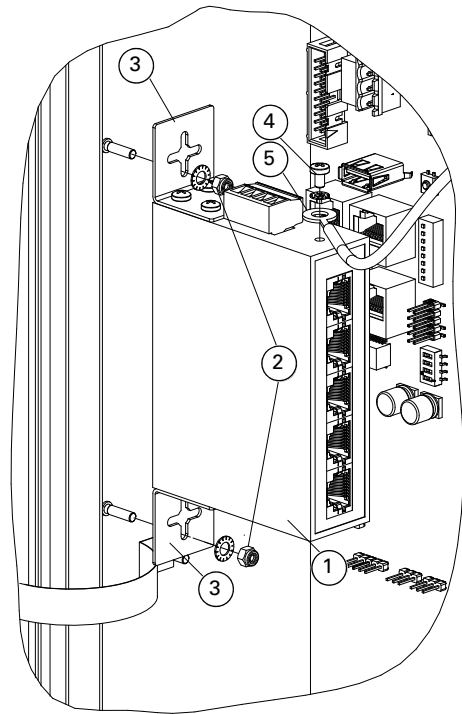

Fig. 5: Installation of the PCS800 to the FireClass FC702S panel
- 1 Mount the fixing elements (refer to item 3 in Fig. 5) with the screws provided on to the Ethernet switch housing.
- 2 Fix the Ethernet switch on to the chassis studs with nuts and washers (item 2).
- 3 Fix the Earthing cable (item 5) supplied with the switch accessories to the top of the Ethernet switch. Secure the cable with a fix-
- ing screw (item 4) and connect the other end to the housing earthing bar.